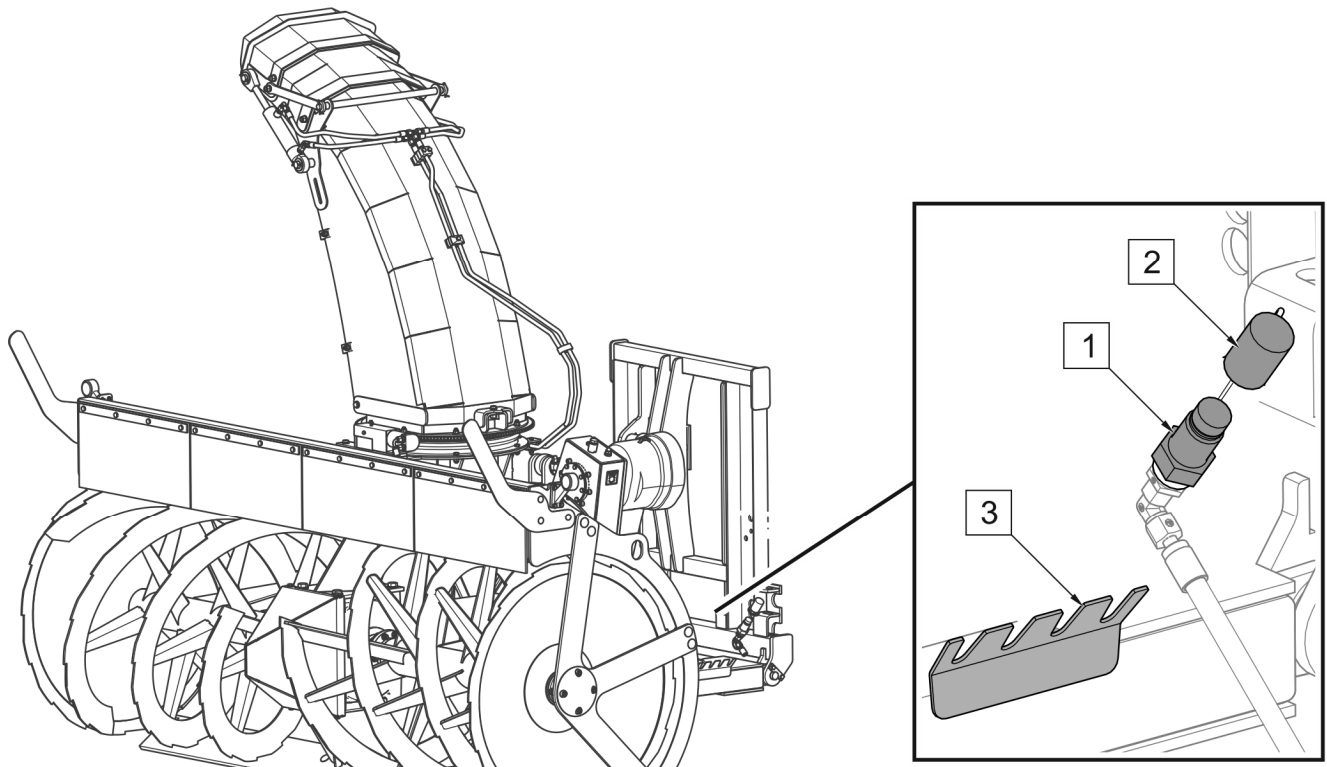

FIGURE 4.19 Protection of hydraulic conduit connectors (machine mounted on the faceplate)
- 3) Carefully drive the carrying vehicle away from the machine to a distance of about 30 cm, immobilize the vehicle and turn off the engine. Reduce residual pressure in the hydraulic system. Disconnect hydraulic conduit connectors, secure them with caps and put in special bracket on the snow blower frame (FIGURE 4.19)